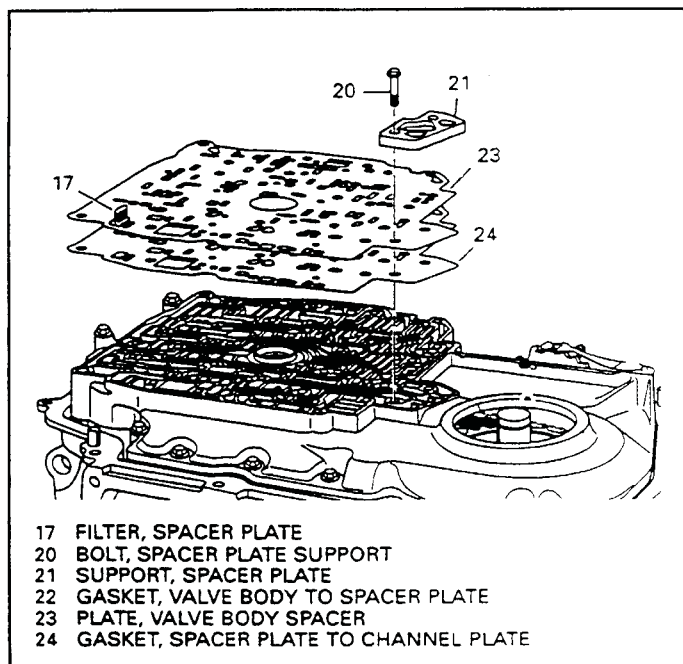

Figure 173
14. Install a new spacer plate to channel plate gasket (24) onto the channel plate as shown in Figure 173.
15. Install the spacer plate (23) on top of the gasket and ensure that the filter screen (17) is in place. (See Figure 173).
16. Install the spacer plate support (21) and the two bolts (20) onto the spacer plate. Hand start the bolts to finger tight.